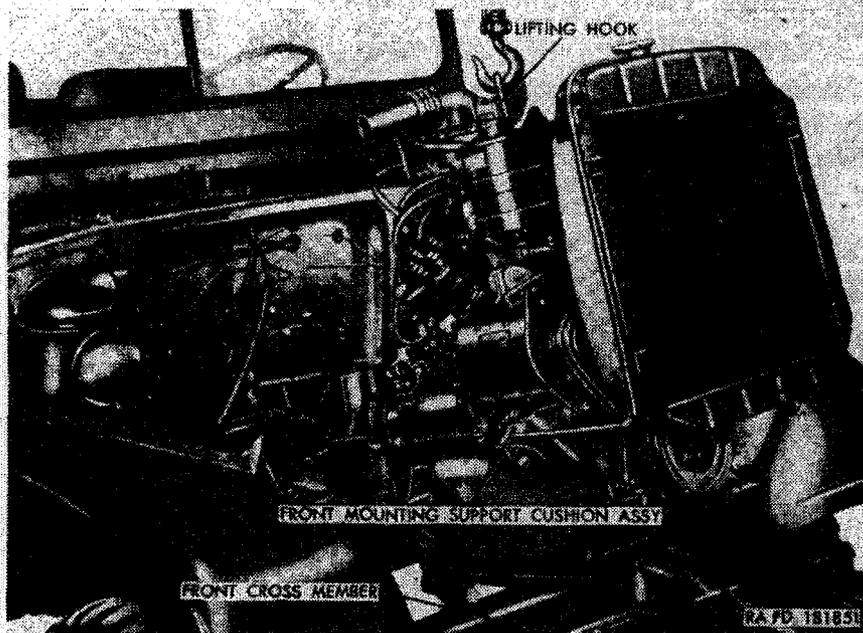

Figure 59. Lifting power plant from vehicle.
- (6) Place a jack under the clutch bell housing to support the power plant rear end. Unscrew the two nuts (S) from the bolts on the right and left side of the vehicle, remove the lockwashers, the engine rear support cross member (Q) with the skid plate (J) and the bolts.
f. Lifting Power Plant From Vehicle (fig. 59).
a. *Lowering Power Plant Into Vehicle* (fig. 59).